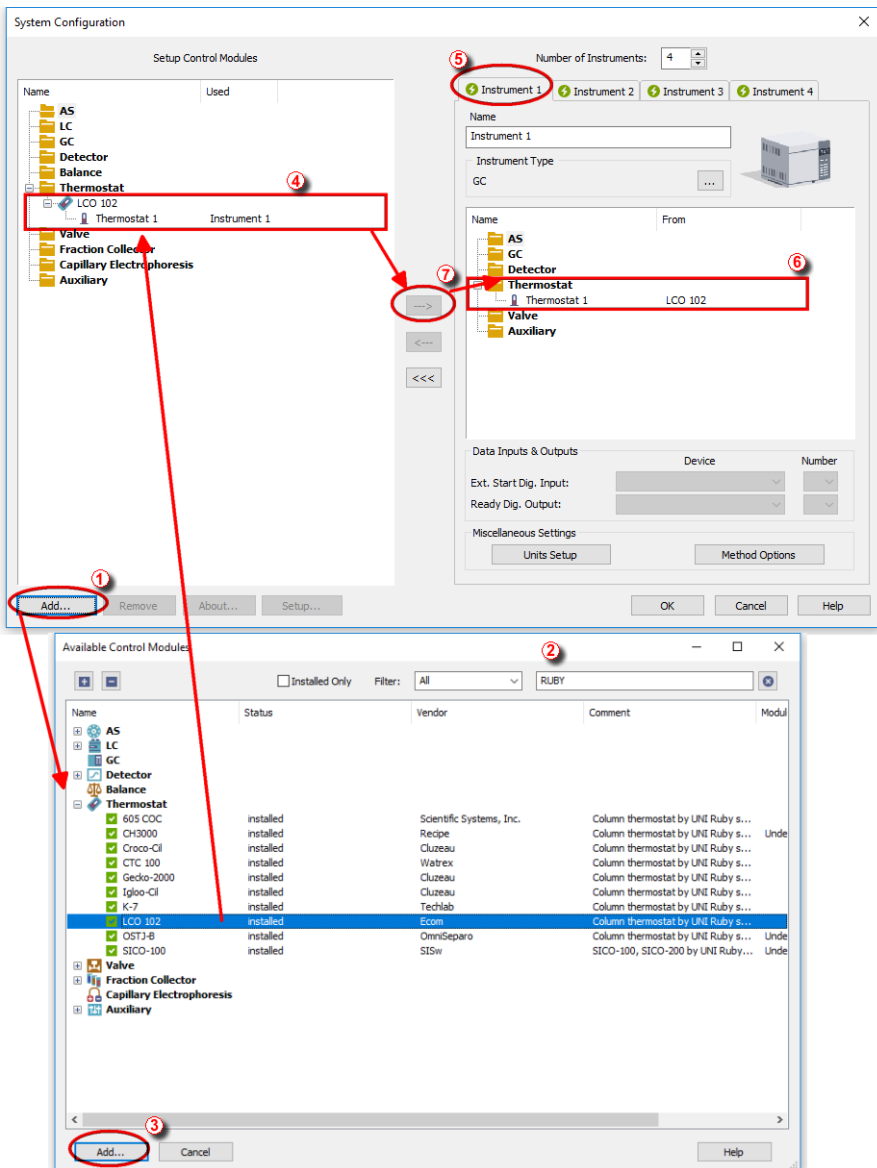

Fig 3: How to Add Ecom LCO 102 module
- Press the **Add** button (① on **Fig 3** on pg 4.) to invoke the **Available Control Modules** dialog.
- You can specify the search filter (②) to simplify the finding of the driver.
- Select the correct item and press the **Add** (③ on **Fig 3** on pg 4.) button. Each device with already created UNI profile should have its own item named accordingly in the **Available Control Modules** dialog.